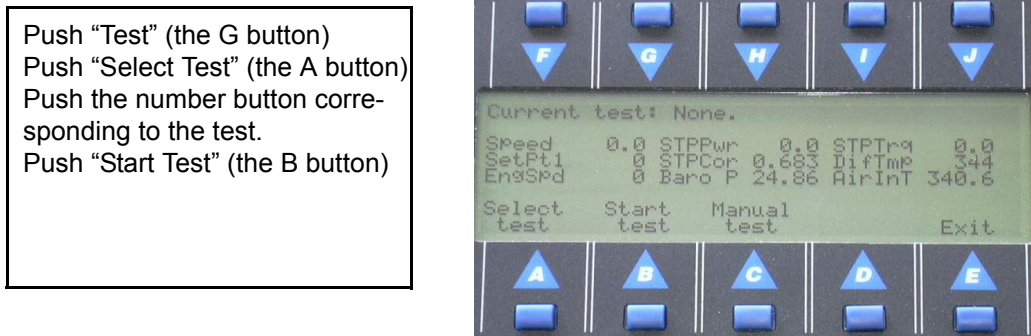

Figure 6-8 Handheld Test menu
13. Select and Start the desired test via the handheld "Test" menu (Figure 6-8). Follow the prompts to run the test. Data from the test will automatically be stored to the computer at the end of the test. Repeat the test if desired.